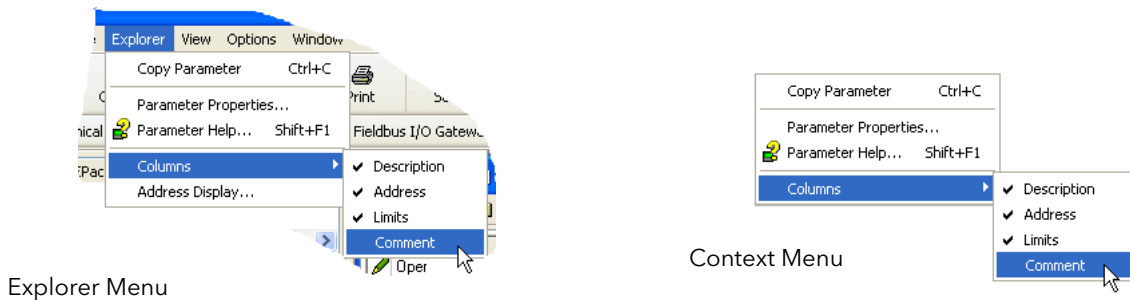

Figure 137 Column enable/disable
The figure above shows the default table layout. Columns can be added/deleted from the view using the 'Columns' item of the Explorer or context menus (Figures 137).
- mns Allows the user to enable/disable a number of parameter table columns (figure 137).